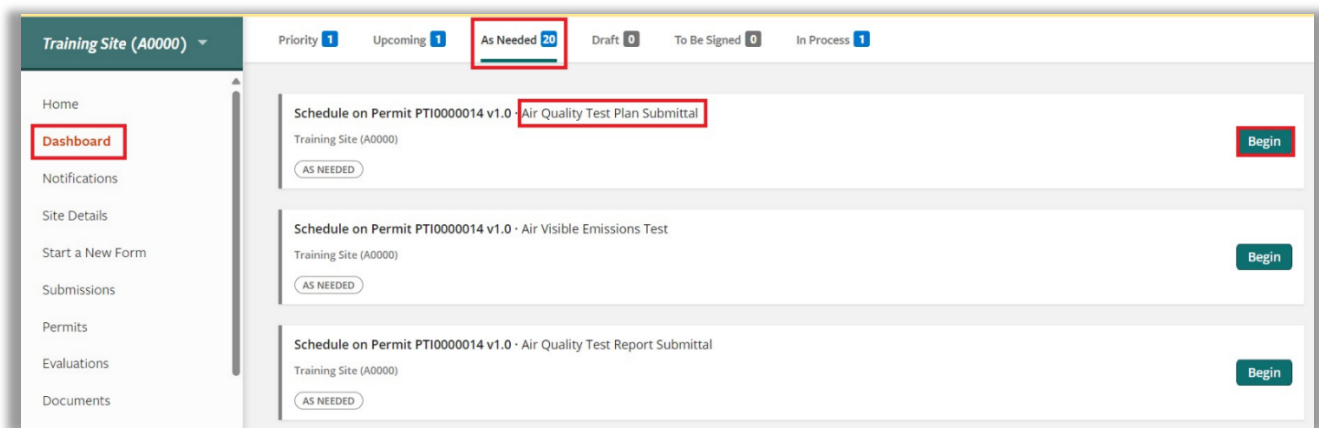

Figure 10-1 – Dashboard As Needed Category
Step 2: Click on the **As Needed** dashboard category See Figure 10-1